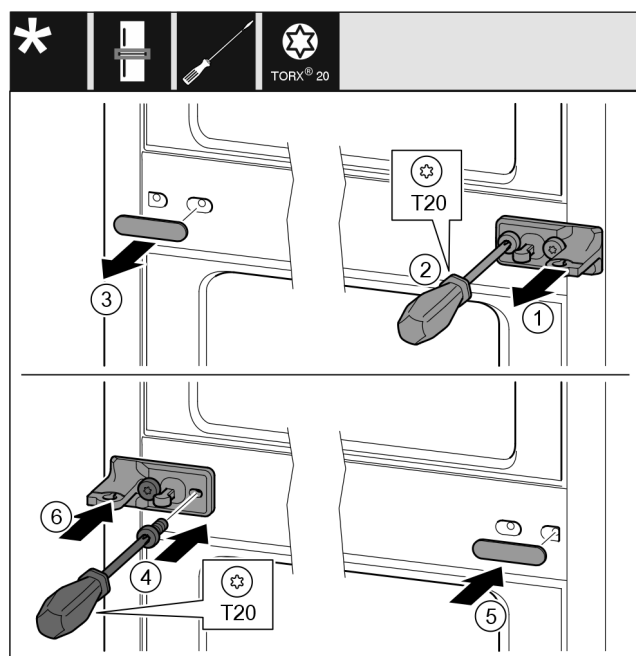

Fig. 36
- ▶ Pull off the washer Fig. 36 (1).
- ▶ Turn out the screws Fig. 36 (2) with the screw driver.
- ▶ Carefully pull off the cover Fig. 36 (3).
- ▶ Tightly screw on the swap bearing block with film Fig. 36 (4) on the other side turned by 180°.
- ▶ Attach the cover Fig. 36 (5) on the other side turned by 180°.
- ▶ Press on the washer Fig. 36 (6) from the front.